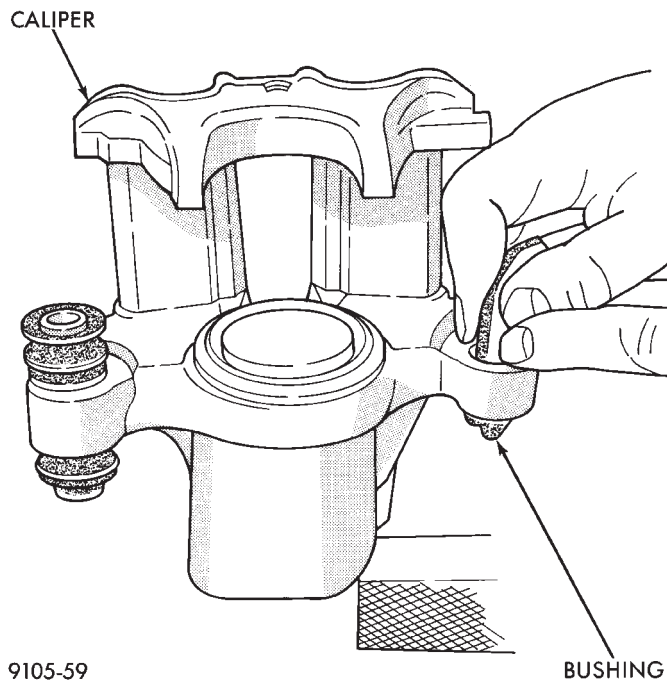

Fig. 167 Installing Caliper Guide Pin Bushing
(2) Insert the folded bushing into the caliper housing (Fig. 167). **Do not use a sharp object to perform this step due to possible damage to the bushing.**